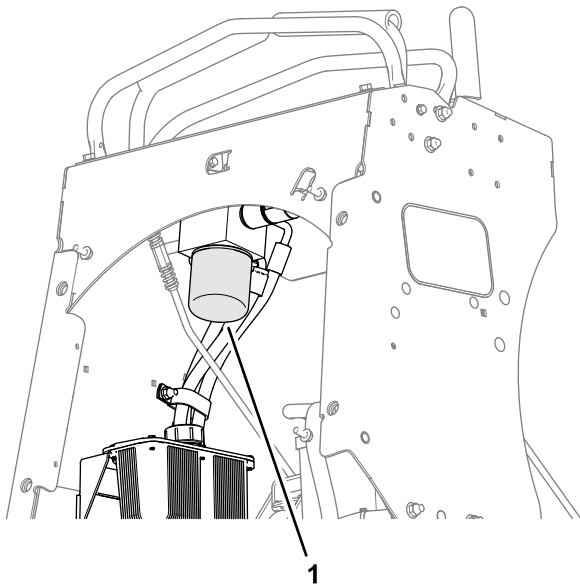

Figure 54
- Unscrew the filter to remove it and allow oil to drain (Figure 54).
3. Turn the filter clockwise until rubber seal contacts the filter adapter, then tighten the filter an additional 2/3 to 3/4 turn (Figure 54).